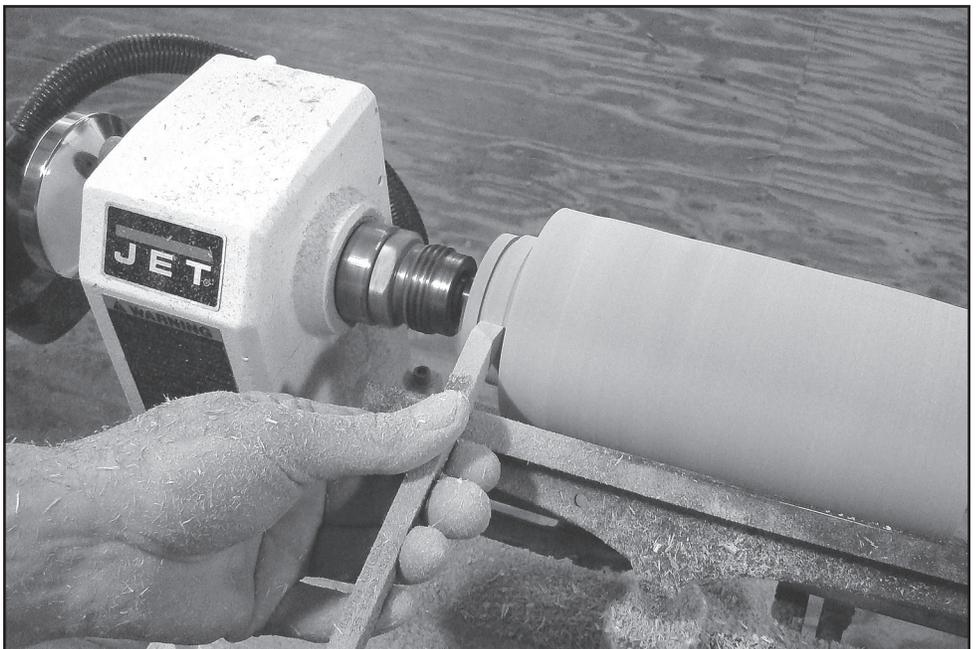

Fig. 11
3. Make a tenon on the headstock end of the blank that will fit into the jaws of your chuck. Fig. 11.